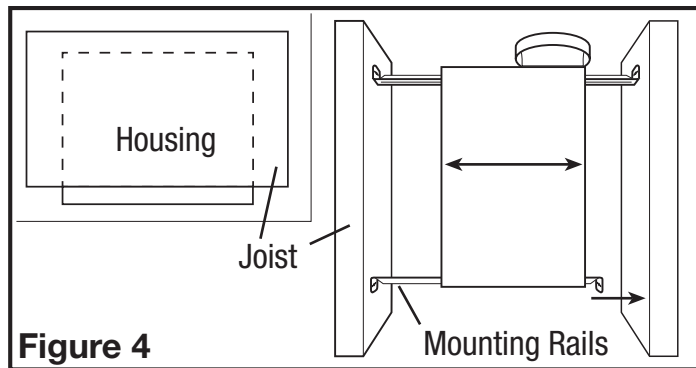
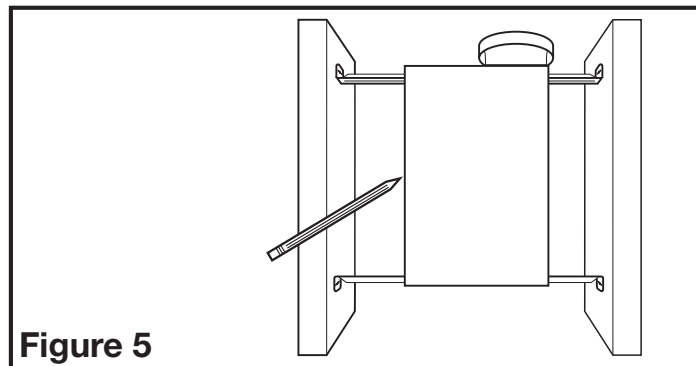

Figure 4
Figure 5
- Install the rails on the housing and position the housing next to the joist. Line up housing so it will be flush with the finished ceiling. Secure the ends of the rails with screws or nails (not included) to the joists and slide housing into final position (Figure 4).
- Set housing in position between the joist and trace an outline onto the ceiling material (Figure 5). Set housing aside and cut opening, being careful not to cut or damage any electrical or other hidden utilities. Install the rails on the housing and position the housing in the previously cut hole so that it is flush with the finished ceiling. Secure the ends of the rails to the joists with screws or nails (not provided) to ensure proper installation (Figure 4).